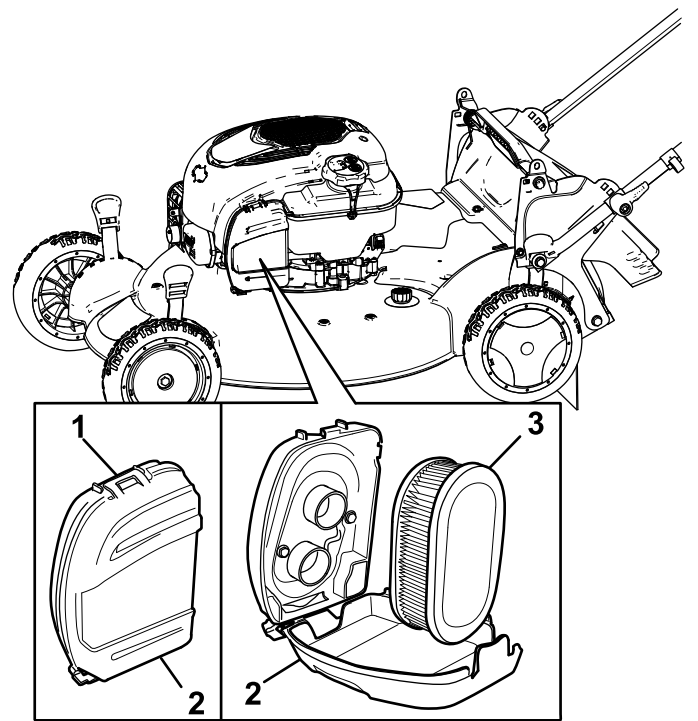

Figure 38
- 1. Unclip the top of the air-filter cover (Figure 38).
- 2. Remove the air filter (Figure 38).